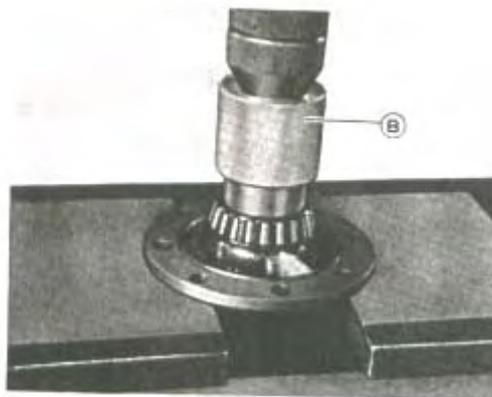

FIG. 13-21
(10) Press-fit differential bearing cone onto axle neck of differential case two end.(FIG. 13-21)